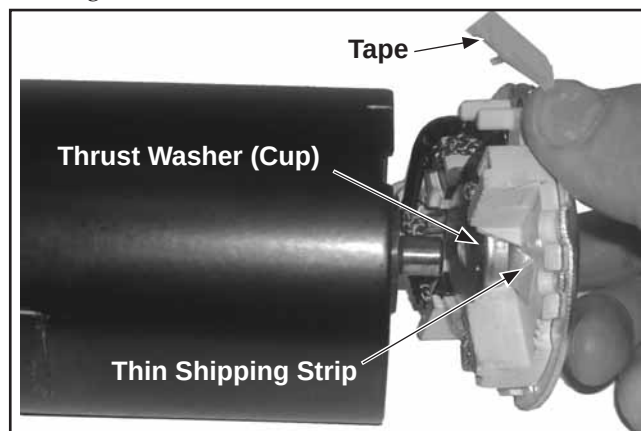

Figure 7-36. Assembling Commutator End Cap onto Armature.
3. **Installing new brushes:** carefully remove the tape holding the thrust washer (cup) in place against the brushes. **Do not** allow the thrust washer (cup) to move out of this position. Align the terminal stud block with the notch in the starter frame and start the brush holder/end cap assembly onto the end of the armature. See Figure 7-36.
4. Pull out the thin shipping strip from behind the thrust washer (cup), and slide the brush holder/end cap into position. See Figure 7-36.